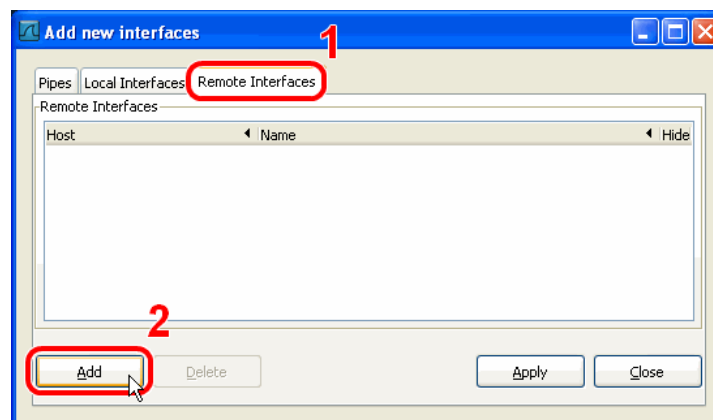

Figure 168: Wireshark Add New Interfaces Dialog.
3. Select the **Remote Interfaces** tab and click **Add** as shown in Figure 168.